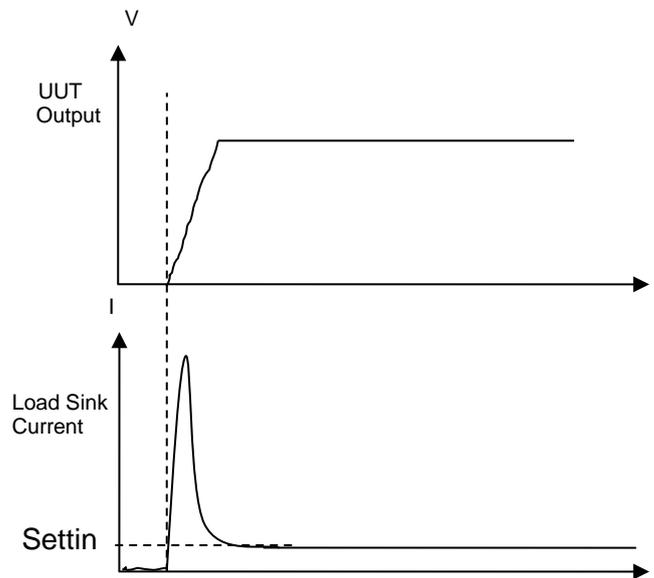

Figure 3-18 When Von Point is set to 0V without Protection
- (1) When it is "LOAD ON", Von Point is set to 0V and Von Protection is disabled, the DC LOAD will occur overshoot when the SW is turned off. It will damage the UUT and DC Load as Figure 3-18 shows.